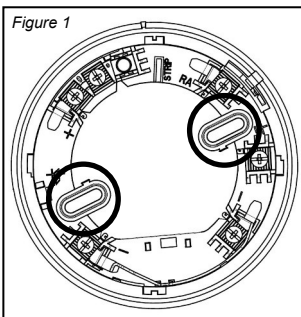

Figure 1
- 2) Install the base in the selected position by inserting the screws in the circles indicated in figure 1.